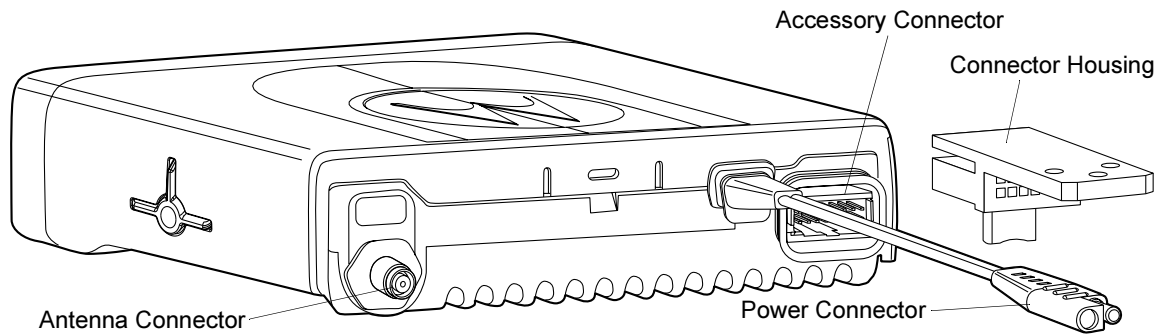

Figure 1-6 Connections to the Back of Radio
An accessory connector on the rear of the radio (see Figure 1-6 Connections to the Back of Radio) enables you to attach different accessories required for the installation.
2. Connect the antenna cable connector to the radio antenna connector on the rear of the radio. (See Figure 1-6.)
3. To complete your radio installation, plug the power cable into the radio power connector. (See Figure 1-6 Connections to the Back of the Radio.)